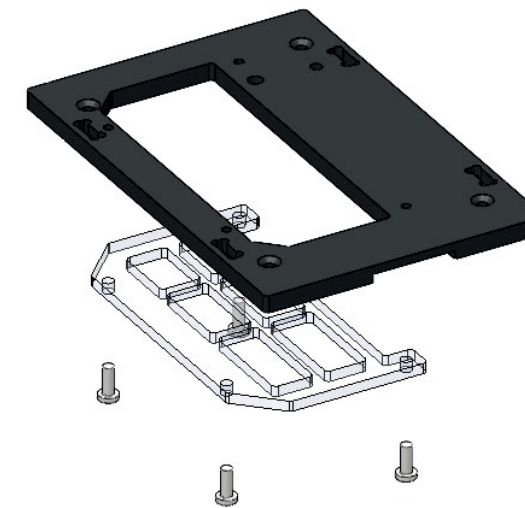

Fig. 86: Assembling the top plate
5) Assemble the top plate (marked “Tester ↑”) together with a transparent panel with holes using M3x6 cylindrical-head screws (Fig. 86):